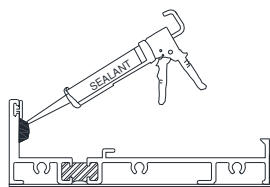

Figure 18:
1. Before glazing, apply a continuous bead of sealant to the fixed leg of the frame (Figure 18).